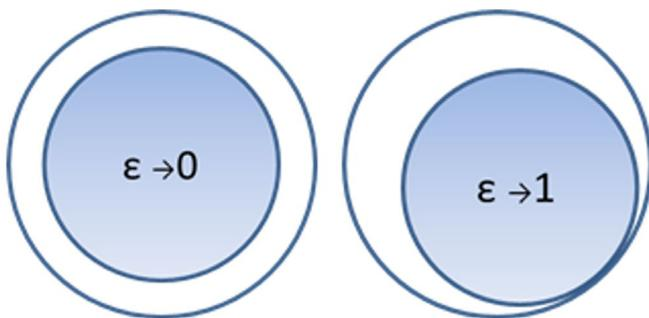

Figure 10.
- $\epsilon = 0$  indicates concentricity within the bearing (Figure 10, Left), and a trend towards 0 can indicate the potential for instability issues.
- $\epsilon = 1$  indicates contact with the bearing wall (Figure 10, above left); and a value approaching 1 indicates preload condition.